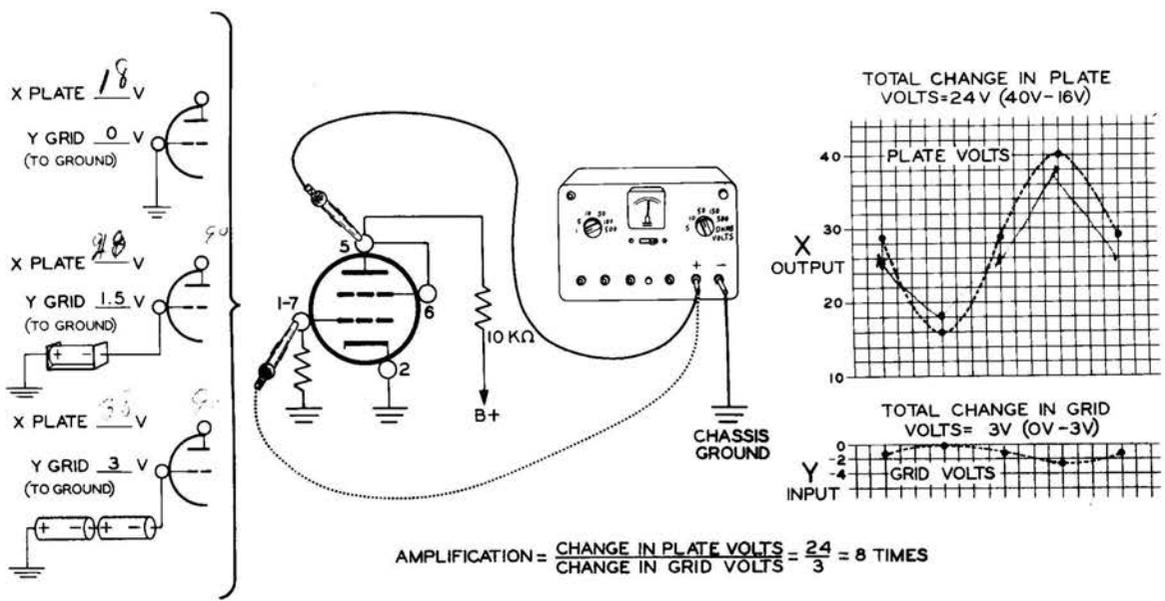

Figure 3W
Figure 3W shows the 6AQ5 pentode connected as a triode. The screen grid of the tube, pin 6, has been connected to pin 5 (the plate of the tube). This makes the tube act like a triode (the suppressor grid will not be able to perform in its normal manner).
In this experiment, 1-1/2 volt batteries connected to the grid of the triode will be used to simulate a signal at the grid. Changing the number of batteries (and therefore the voltage) at the grid, changes the plate current just as an AC signal would. The three voltages at the grid (input), indicated by the letter Y, are plotted on Graph Y at the lower right of the meter in Figure 3W. The three voltage readings at the plate (output), indicated by the letter X, are shown in Graph X to the right of the meter.
- () Connect the negative lead of a flashlight cell to pin 1 of the 6AQ5 (S). Connect the positive lead of this flashlight cell to the chassis of the EK-2 (S).
- (✓) Connect a second flashlight cell in series with this first flashlight cell, by connecting the negative lead of the new cell to pin 1 of the 6AQ5 socket (S). Connect the positive lead of the new cell to the negative lead of the first cell (S).
- (✓) Now mark a dot for each of your voltage readings in the proper positions in waveform X of Figure 3W. Mark the dot that represents the middle voltage reading down three times just as in the waveform now indicated on Graph X. Now connect your five dots together to give you the correct simulated sine wave for your amplifier stage.